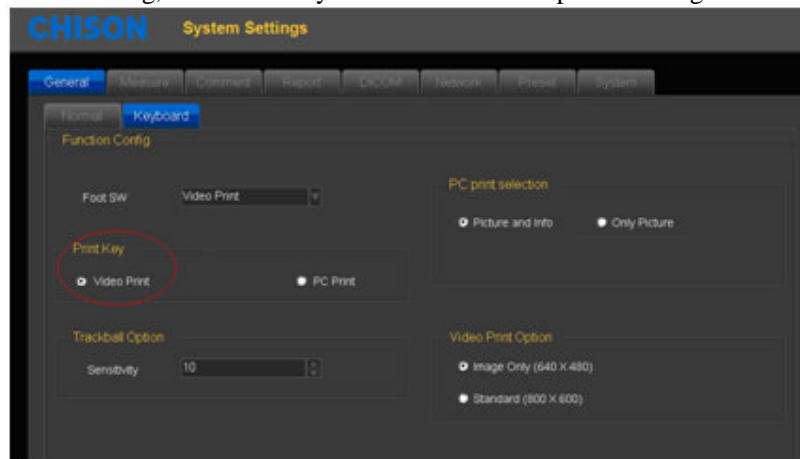

Fig.3-7
- 5) Set the video print option to choose different methods for video print. Choose the “General” setting, and select Keyboard submenu. See picture in Fig. 3-7.